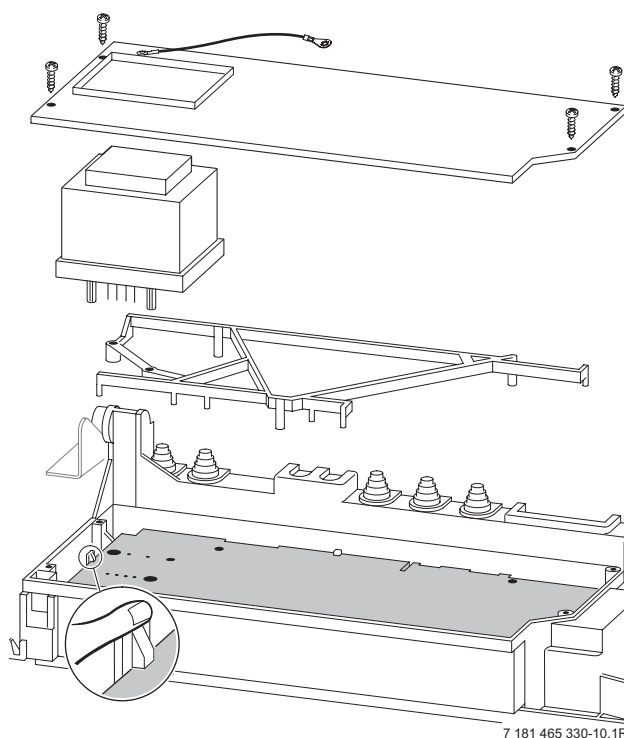

Fig. 58
- Unscrew four fixing screws from cover plate. Refer to fig. 58.